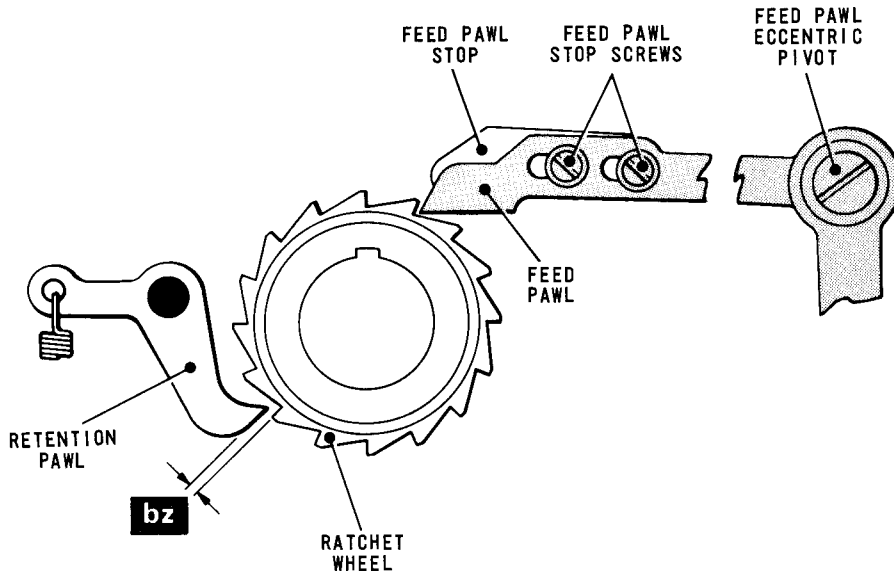

Fig. 4.89 ANSWER-BACK FEED MECHANISM
- 111.1 Depress the 'Here Is' key or, if the machine has no keyboard, move the shift lever, Fig.4.53, to the Figures position and set up the WRU? code (MSSMS) on the pins. Lift the translator clutch abutment and turn the machine by hand until the feed pawl, Fig.4.89, is in its extreme left-hand position. Check that there is now a clearance of .002 - .010 in. (dimension 'bz') between the retention pawl and the next tooth of the ratchet wheel.
- 112.1 Depress the 'Here Is' key or, if the machine has no keyboard move the shift lever, Fig.4.53, to the Figures position and set up the WRU? code (MSSMS) on the pins. Lift the translator clutch abutment and turn the machine by hand until the feed pawl, Fig.4.89, is in its extreme left-hand position. Check that the feed pawl stop is now lodged tightly against its rack.